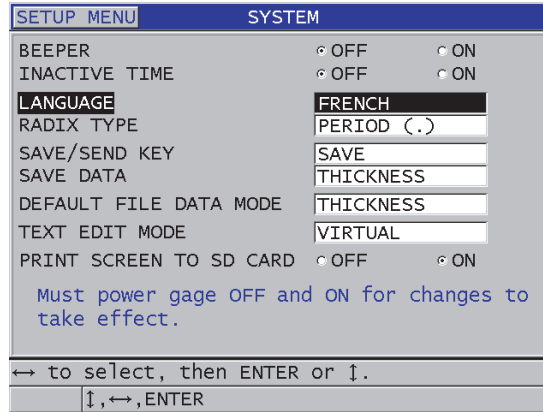

Figure 4-1 Selecting the user interface language
3. In the **SYSTEM** screen (see Figure 4-1 on page 66):